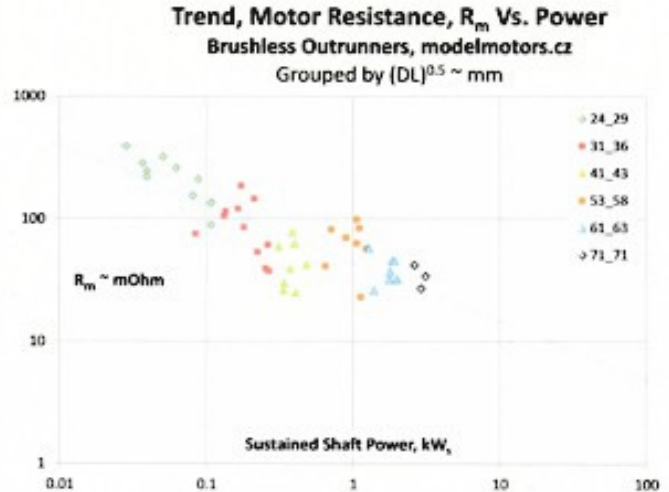

Figure 7. Brushless-outrunner motor resistance trend.
Due to the inter-dependence of the many entities represented in Eqs. (3), the solution for optimal conditions will be iterative. First, motor resistance (R_m) [see Figure 7 trend]⁴ and battery resistance (R_b), the constituents of (R_e), depend largely on component scale, but also of course on component design. Second, system peak efficiency is tied to the specific torque loss (ψ) per Eq. (2a). The EXCEL/Visual Basic pseudo-code of Figure 8 outlines the predict-correct algorithm solving for the optimal conditions at full power (here, no effort has yet been made to expedite convergence, and the user must confirm convergence before using the results). The method has been applied, with details in the spreadsheet of Figure 9, to optimize the full-power architecture of a 0.1 kW_e UAV, where red boxes highlight key inputs and where ellipses highlight key outputs.